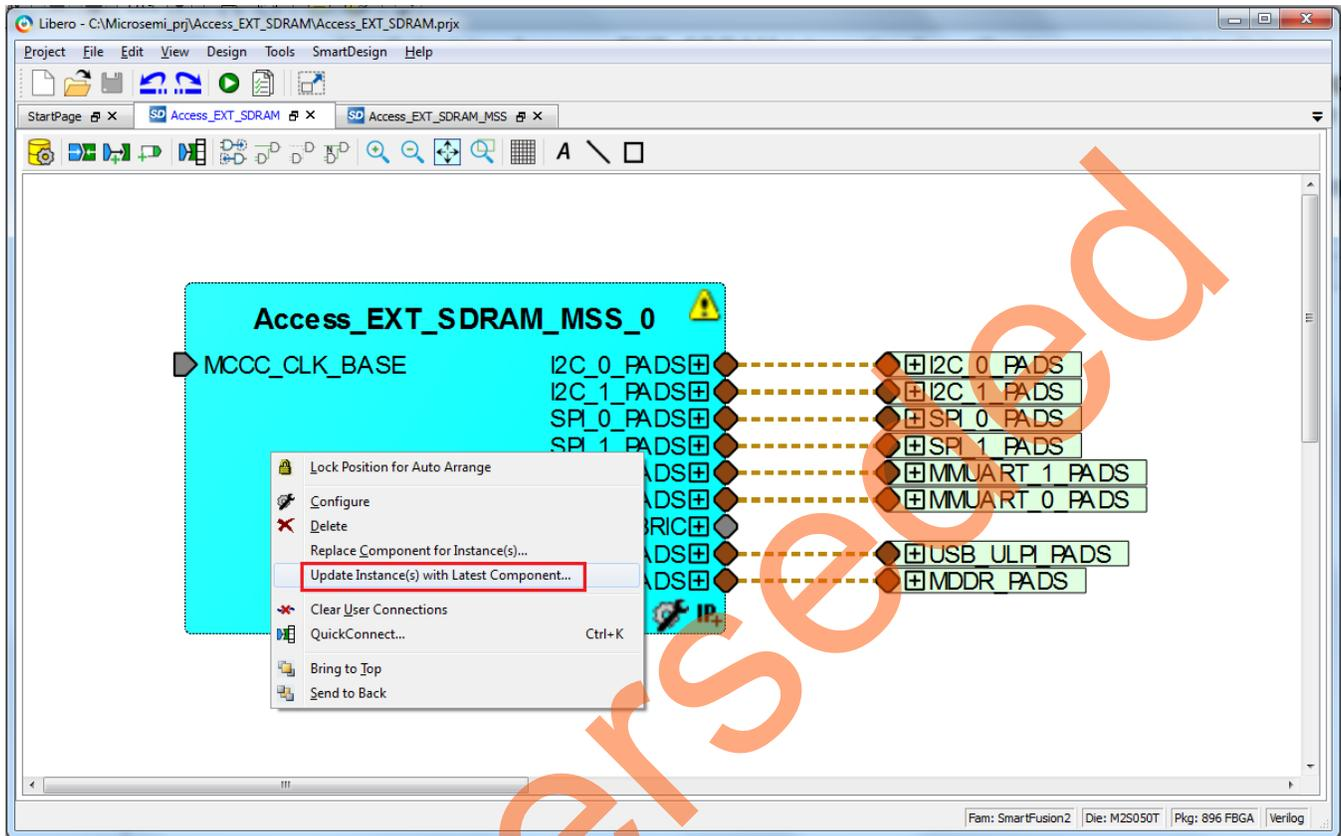

Figure 13. Updating the MSS
1. Select the **Access\_EXT\_SDRAM** tab on the SmartDesign canvas, right-click **Access\_EXT\_SDRAM\_MSS\_0** and select **Update Instance(s) with Latest Component**, as shown in Figure 13.